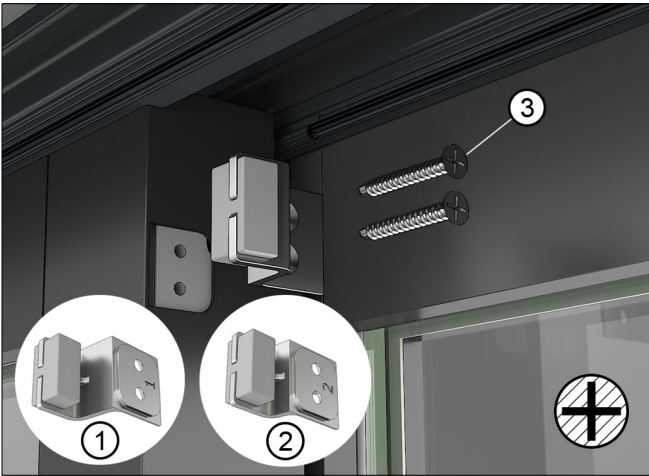
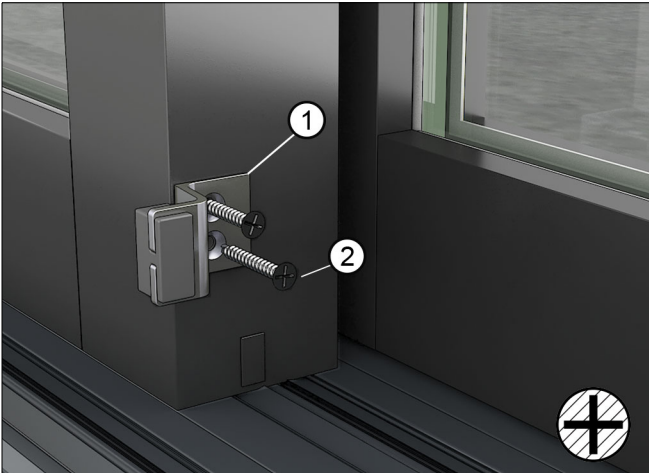

Figure 113 Top secondary panel bumper
Figure 114 Bottom secondary panel bumper
1. On secondary panels, fasten panel bumpers to the interior meeting stile at the top and bottom with #10 x 1 1/2" Phillips head screws. See Figure 113 and Figure 114.